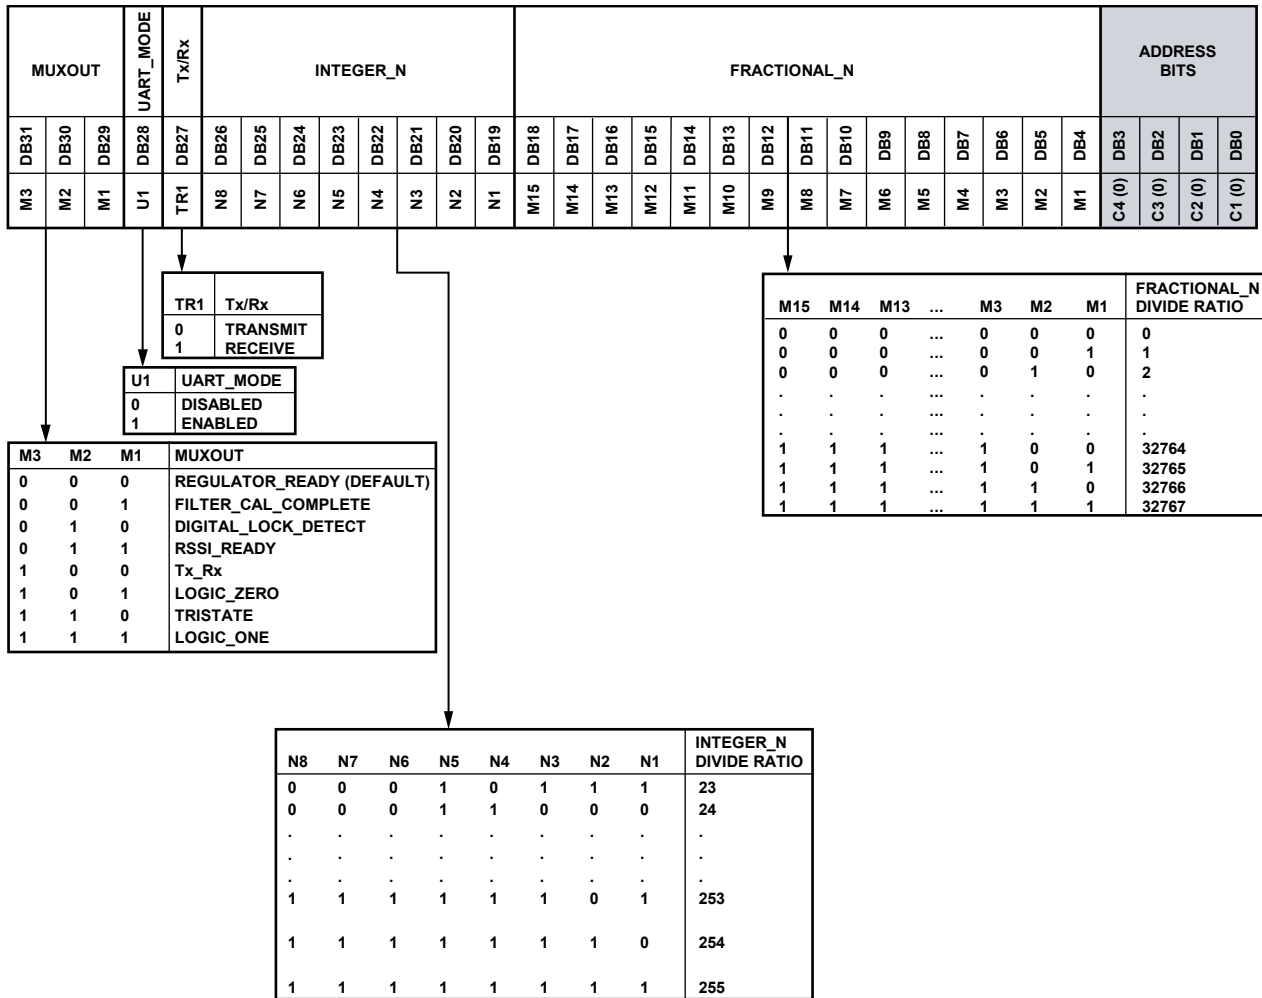

Figure 63. Register 0—N Register Map
- FILTER\_CAL\_COMPLETE in the MUXOUT map in Figure 63 indicates when a coarse or coarse plus fine IF filter calibration has finished. DIGITAL\_LOCK\_DETECT indicates when the PLL has locked. RSSI\_READY indicates that the RSSI signal has settled and an RSSI readback can be performed.